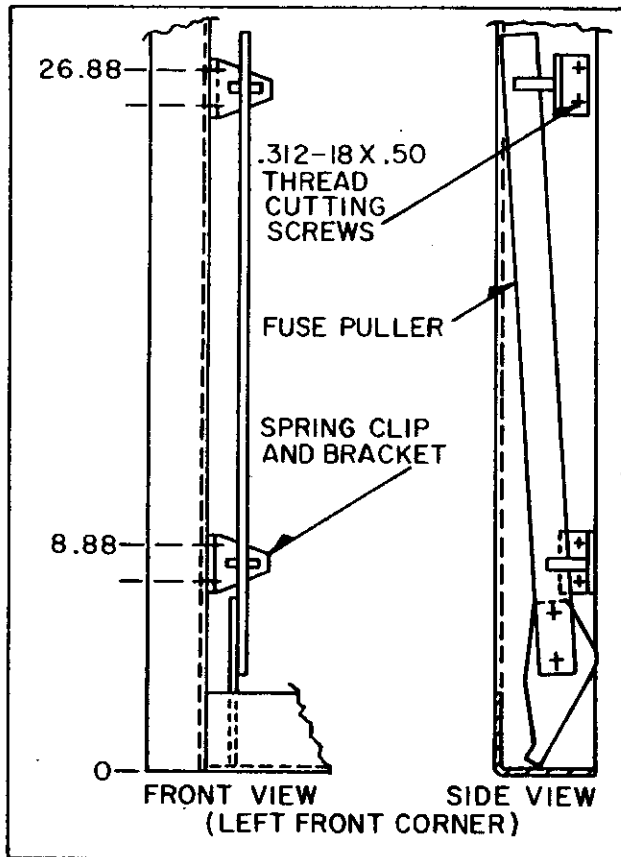

FIG. 2
- 9) The fuse puller (Style 6391D55602) is to be stored on the left hand outermost upright when not in use. It is held in place by two spring clips and angle brackets. Locate and attach these brackets as shown in FIG. 2. Use existing .266 dia. holes in upright.